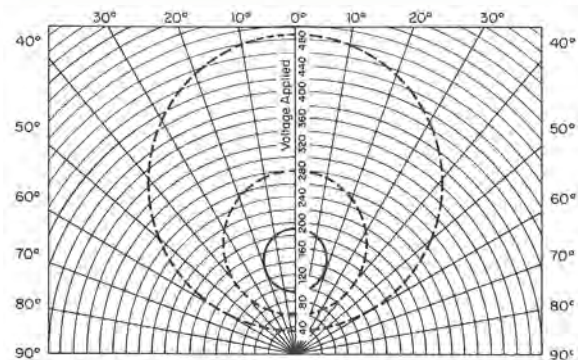
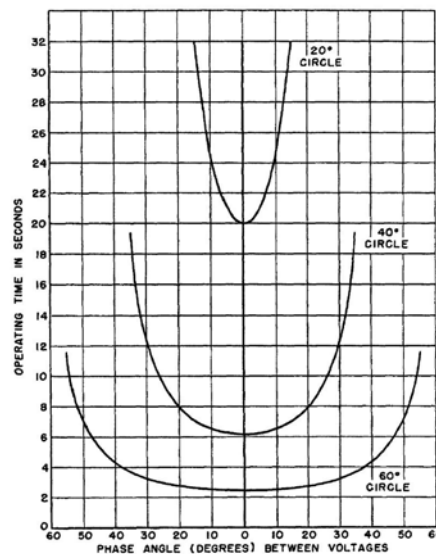

Figure 1: Synch Check Relay Circle Characteristic
Figure 2: Synch Check Timing Characteristic
3. d. Synch check relays require two voltages. One voltage is used as the nominal (rated) voltage and the other voltage is varied. The characteristic in Figure 1 shows how the two voltages are used to check the size of the circle. For a relay rated at 120 V, one voltage is typically set to 120 V at zero degrees, while the second voltage is set to 120 V and the phase angle is varied to find its operating angles. At the 60-degree circle setting (the largest of the circles) and at 120 V, the relay will close its contacts at 60 degrees plus-or-minus the tolerance of the relay, which is usually 10 percent. Note that 120 V is in the center of the circle, and at zero-degree phase angle difference, the relay contacts will flicker if the second voltage is increased to 480 V (with the first voltage at 120 V). The timing test is performed by setting both voltages at zero-degree phase angle. One voltage is usually set to 120 V (or rated voltage), while the second voltage is set to zero V and the relay timed (see Figure 2).